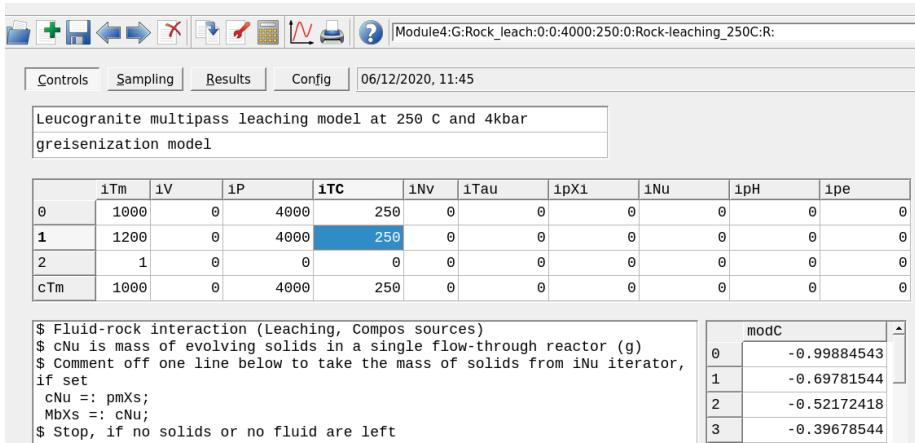

Figure 4.8: Controls window showing the set up for a Process simulation in R mode for the leaching model at 250 °C and 4 kbar.
- In the **Controls** window change the temperature to 250 °C. Make sure to save the record (Fig. 4.8).